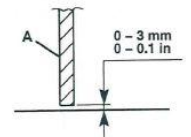

Figure 16
- The front baffle (Figure 16 B) should be approximately 2mm above the floor.